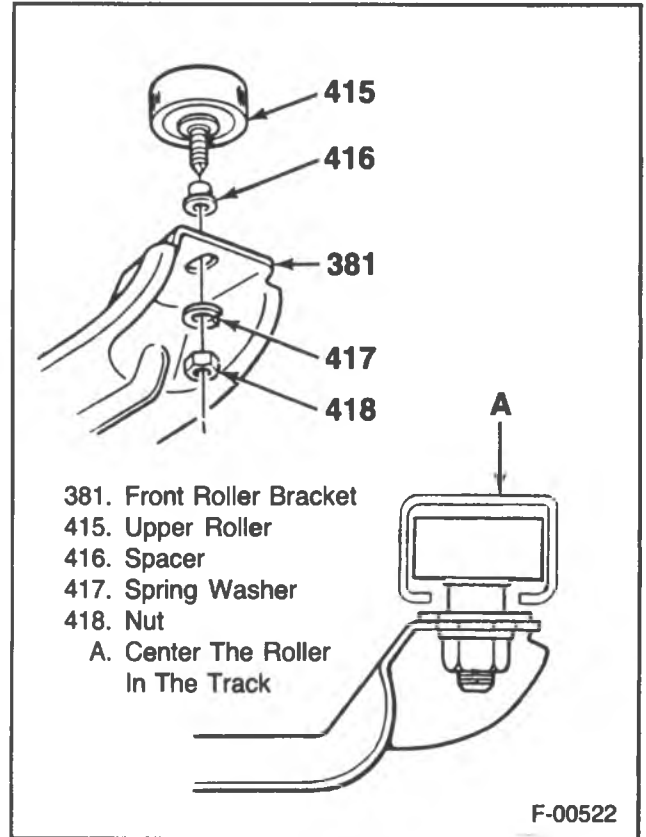
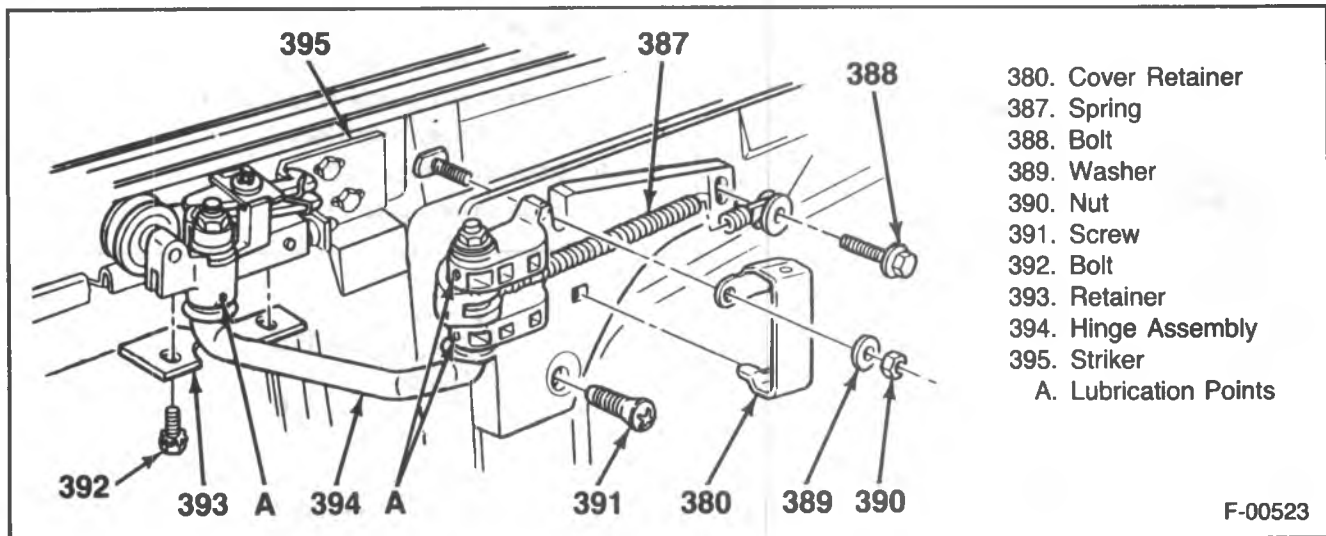

Figure 92 — Upper Front Roller Components
Figure 93 — Upper Rear Hinge Components
←→ Remove or Disconnect (Figure 93)
→→ Install or Connect (Figure 93)
↔ Remove or Disconnect (Figure 92)
↔ Install or Connect (Figure 92)
1. The rear edge of the door to obtain a gap of 4.5 mm \pm 0.5 mm (0.18-inch \pm 0.02-inch) between the top of the door and the roof side rail. This adjustment should provide a gap of 6 mm \pm 0.5 mm (0.25-inch \pm 0.02-inch) between the bottom of the door and the rocker panel. To accomplish this adjustment, loosen the upper rear hinge to door bolts (figure 92), and align the rear edge of the door up or down. Next, tighten the upper rear hinge to door bolts (figure 93).
4. Loosen the upper rear hinge striker (figure 93).
6. Tighten the upper rear hinge striker (figure 93).